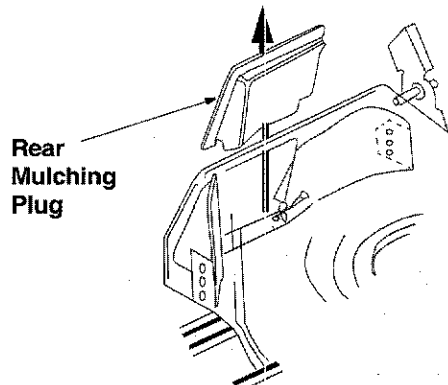

Figure 12
- If your mower is equipped with a mulching plug, and it is in place on the mower, lift the rear discharge door and remove the rear mulching plug from the mower. See Figure 12.
- Insert the mulch plug. See Figure 12.